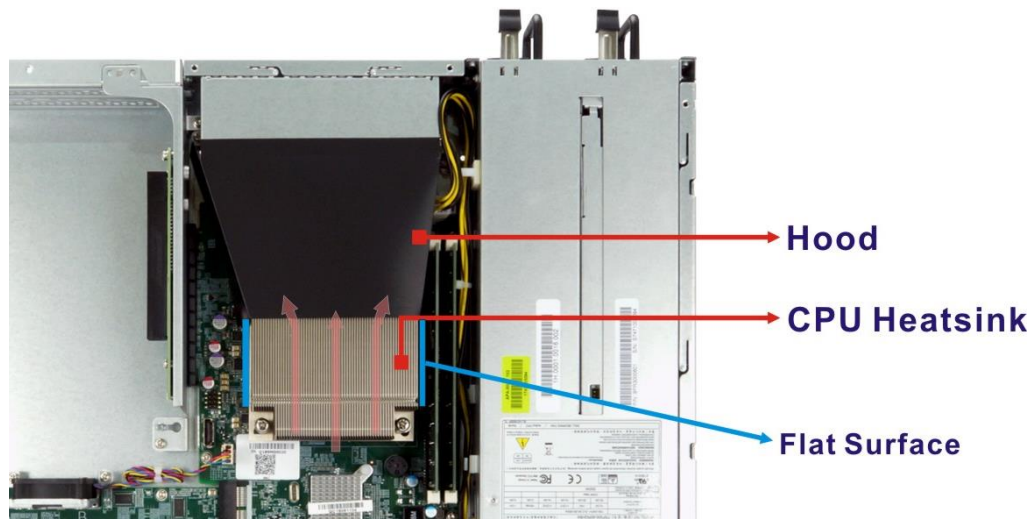

Figure 3-7: CPU Heatsink Installation
- Step 2: Properly orient the CPU heatsink.** The CPU heatsink must be oriented as shown in **Figure 3-7** so that thermal convection currents can carry the heat away from the heatsink.
- Step 5: Install the hood.** Peel off the backing of the double-sided tapes attached inside the hood. Attach the hood to the chassis and the heatsink as shown in **Figure 3-7**.